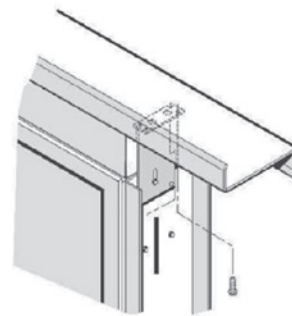

Figure 3
4. Back out the screws holding top jamb clips, and slide clips straight up to the girt. Secure the door to the girt through the girt clips with the self-drilling screws provided. (Figure 3)